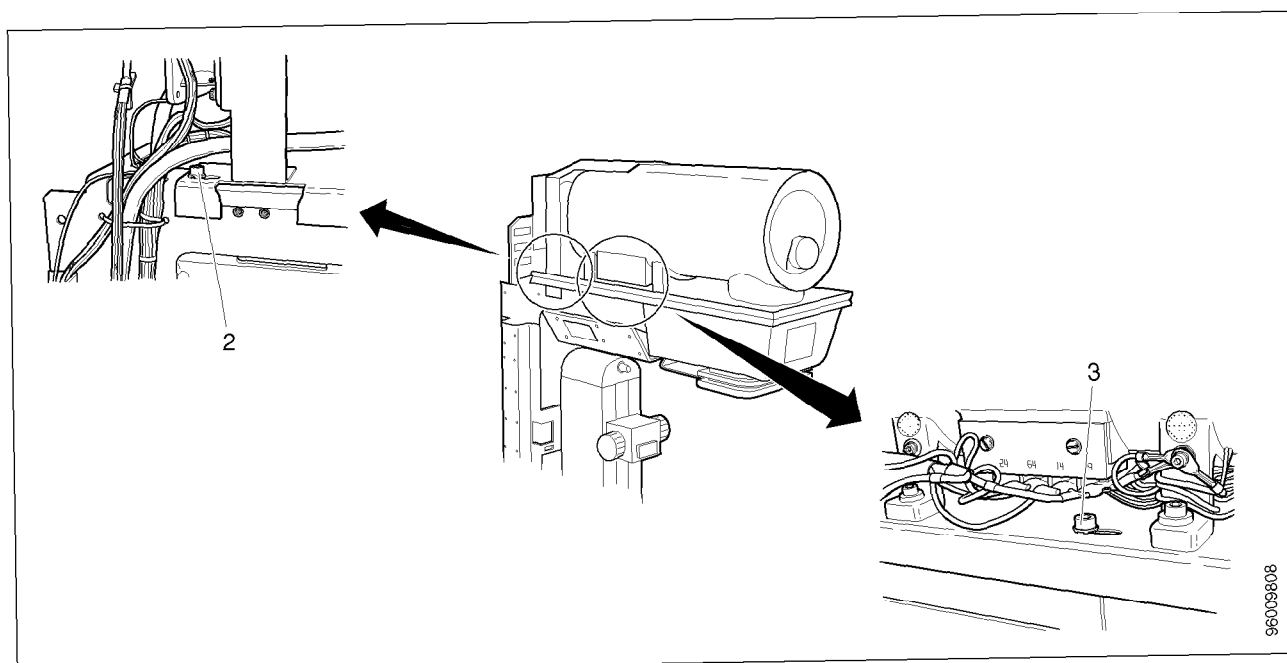

Fig. 4
- Loosen the mounting screws (2 and 3/ Fig. 4).